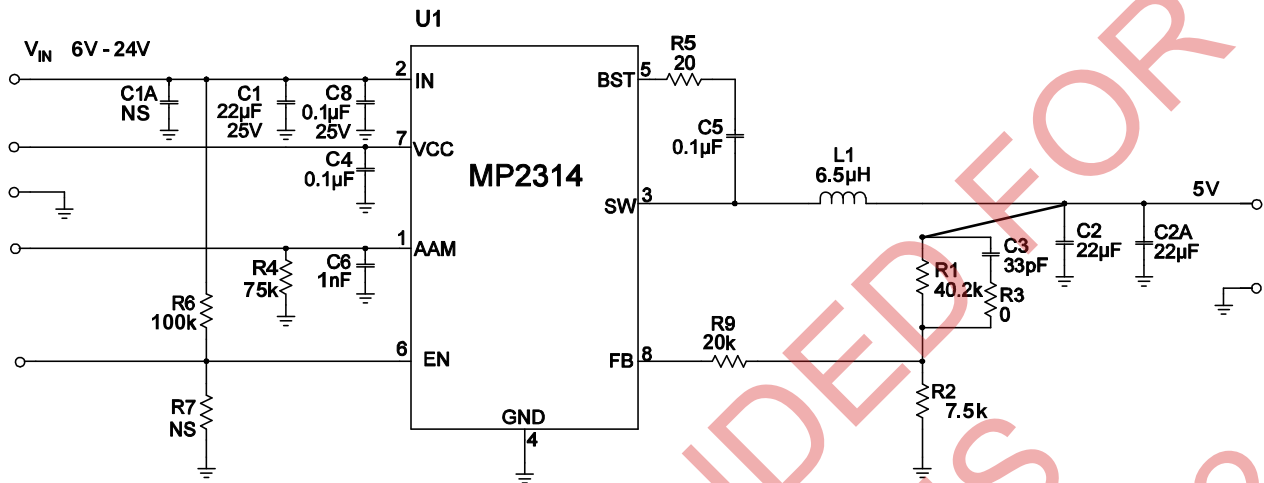

Figure 9: $V_o=5V, I_o=2A$
- 7) The recommended layout is based on the Figure 9 Typical Application circuit on the next page.
The detailed application schematics are shown in Figures 9 through 14. The typical performance and circuit waveforms have been shown in the Typical Performance Characteristics section. For more device applications, please refer to the related Evaluation Board Datasheets.